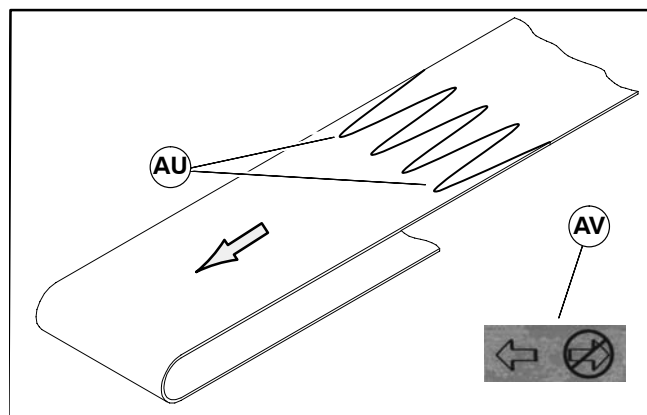

Figure 28
1. Orient belt so splice leading fingers (AU of Figure 28) point in the direction of belt travel as identified by the conveyor directional label (AV).
2. Orient belt so splice leading fingers (AU of Figure 28) point in the direction of belt travel as identified by the conveyor directional label (AV).